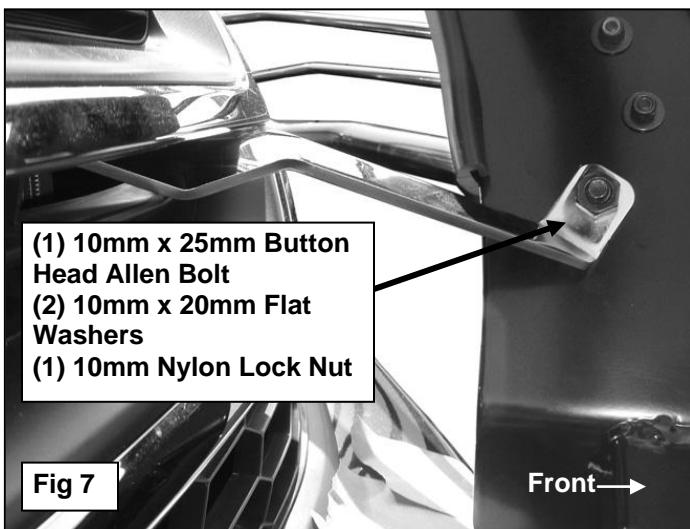

Fig 7
9. Align hole in the passenger side Top Bracket with hole in the Grille Guard plate. Attach the Top Bracket to the Grille Guard with the included (1) 10mm x 25mm Button Head Allen Bolt, (2) 10mm Flat Washers and (1) 10mm Nylon Lock Nut, **(Figure 7)**. Repeat this step for driver side Top Bracket installation. Do not tighten hardware at this time.
11. Carefully place the plastic top radiator cover in position and mark the areas that will need to be cut from the plastic cover to clear the (2) Top Brackets. Once properly trimmed, reinstall the plastic cover using the original hardware.